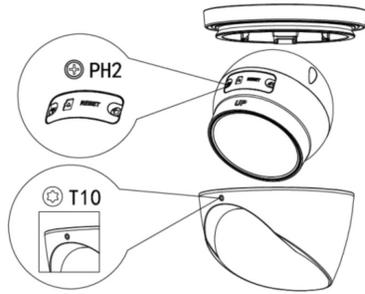

Figure 2-1
Step 1 Please refer Figure 2-1 to loosen the dome body.